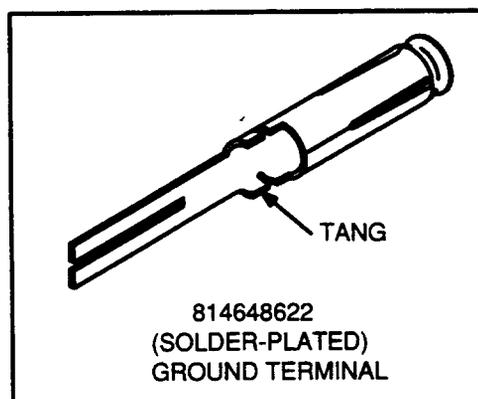

Figure 16. Ground Terminal
4.09 To remove the 814648622 (P-46D862) ground terminal (Figure 16), proceed as follows: